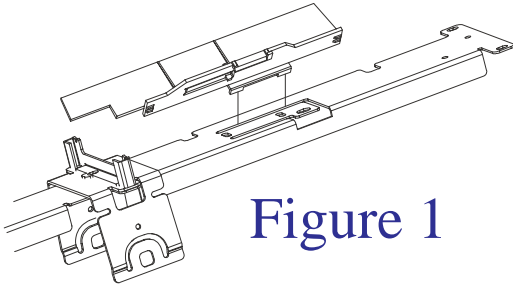

Figure 1
- 4 Passing the fan deflector between the slider rods and the encoder strip, install the two front clips in the cut as shown in figures 1 and 2.